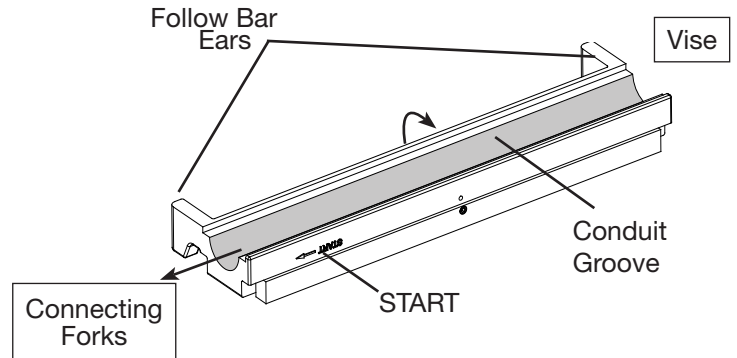

Figure 12
2. Choose the follow bar that matches the conduit size. Rotate so the follow bar ears are up and insert the "START" end between the connecting forks away from the vise. (Fig. 12)